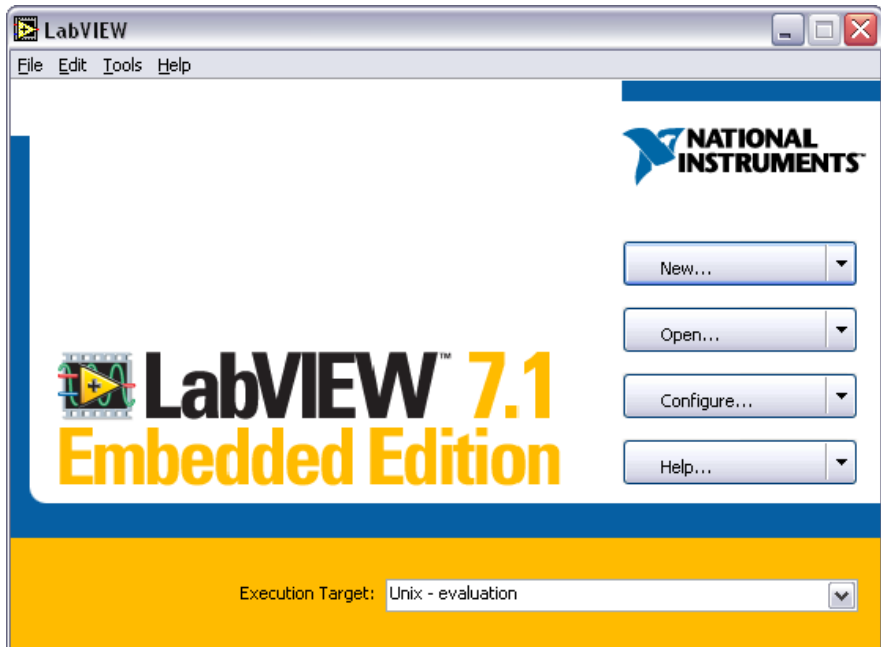

Figure 1. LabVIEW Dialog Box
2. In the **LabVIEW** dialog box, shown in Figure 1, select **Unix - evaluation** from the **Execution Target** pull-down menu.